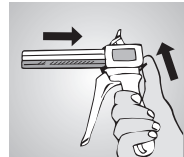
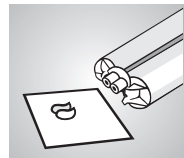
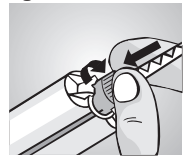

Fig. 2
Fig. 3
Fig. 4
Cartridge material is extruded using the Automix2-System dispensing gun (Fig. 2). After inserting cartridge into dispensing gun, unscrew cap and carefully extrude a small amount of material to insure proper flow from both ducts (Fig. 3). Attach mixing cannula by aligning notched side to cartridge and turning clockwise until fastened (Fig. 4). Dispenser now ready to mix silicone in any amount needed. Leave mixing cannula on cartridge after use. Use only 1:1 blue short mixing cannulas!
- To ensure a homogeneous mixing: Prior to insert the mixing cannula, **always** eject a small amount of material to ensure extruding **equal amounts** of base and catalyst **from both orifices** (Fig. 3).